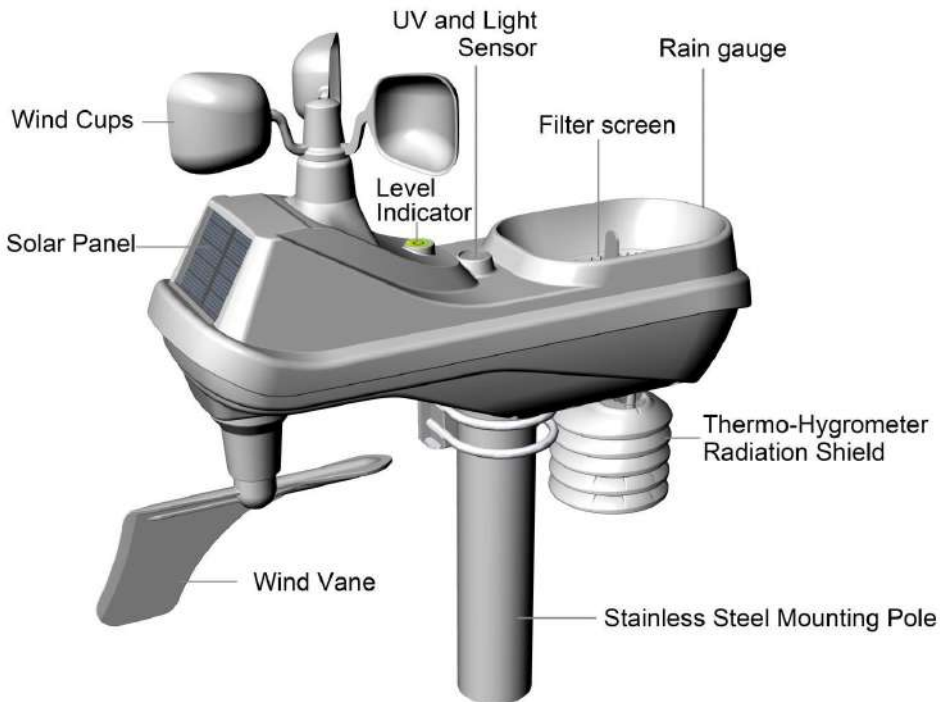

Figure 2
**Note:** The outdoor sensor array must be powered and updating before powering up the console, or the console will stop scanning and connecting with the sensors. The following illustration shows the full segment for Thermo-Hygrometer, WIND,RAIN and UV INDEX sensor purposes only ,as shown in Figure 2.